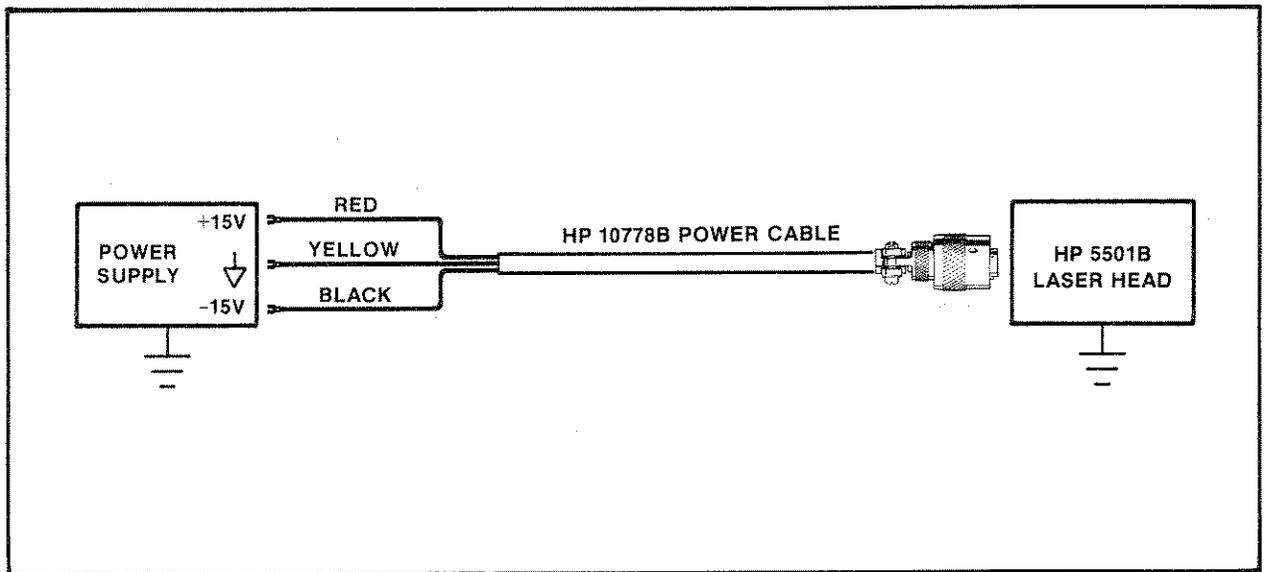

Figure 4-1. HP 5501B Power Connections
- a. Connect the HP 5501B to the HP 5501A system (or any suitable dual DC voltage power supply such as the HP 6255A) using HP 10778B Power Cable as shown in Figure 4-1.